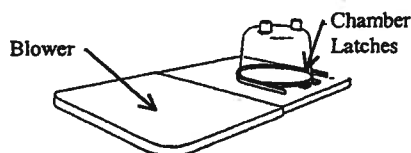

Fig 1. Mounting Tray showing HC325 chamber fitted.
The tray is designed to have your CPAP or Bilevel type blower placed on the left side of the tray as shown in Fig 1.
3. Slide the chamber into position on the tray until both chamber latches spring up, as shown in Fig 1.